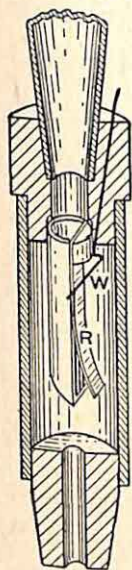

FIG. 84.
**Organ pipes** are of two kinds. In the *flue pipe* (Fig. 83) a steady stream of air from the bellows is directed through the slit S against the sharp edge of the blade B. The latter, in vibration under the slight pressure of the air, is the source which causes the air in the pipe to resound. The pipe may be left open at the top and act as an open pipe; alternately it may be closed at the top by a leather-covered plug P and act as a closed pipe. In the *reed pipe* (Fig. 84) the air column resounds to the vibration of a reed R, which is "tuned" to the required frequency by